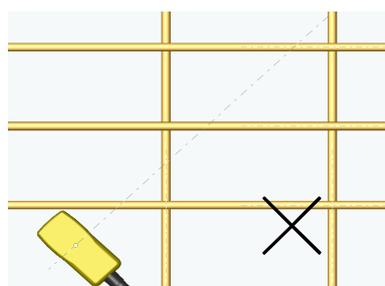
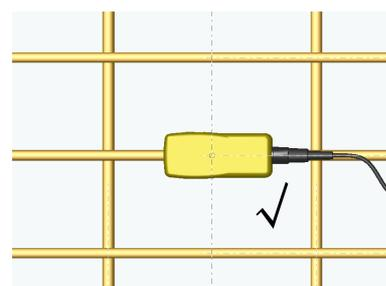

Fig. A.1
Fig. A.2
- ▶ Direction of scan should be perpendicular to the direction of the rebar (fig. A.2), otherwise this may cause misjudge (Fig. A.1)